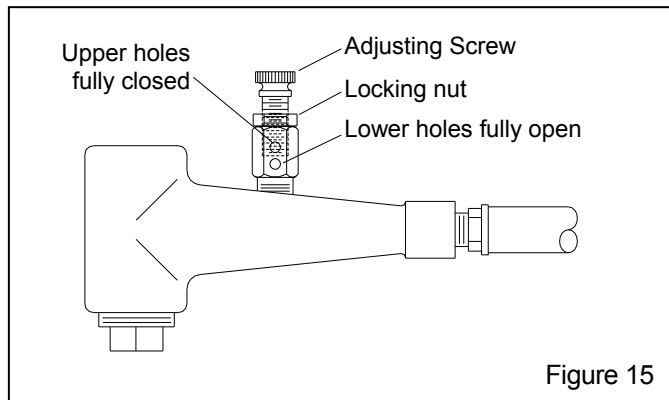

Figure 15
**5.3 Media/Air Mixture, Figure 15**
**5.3.2** If media does not flow smoothly, loosen the locking nut and adjust the metering screw until the upper holes in the metering stem are closed-off, and the lower holes are fully open, as shown in Figure 15. This adjustment is a starting point.